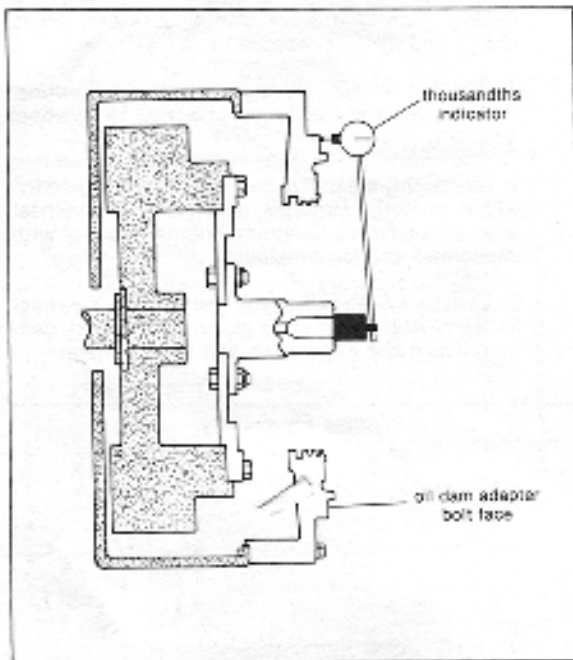

Figure 5. Dial Indicating Oil Dam Adapter Bolt Face
10. Dial indicates oil dam bolt face as shown in figure 5. Record reading. **Total** indicator reading must not exceed .007 in.